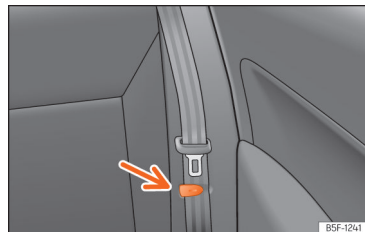

Fig. 92 Rear seat: clip to hold the seatbelt in place.
- Place the side seat belts in the trim clip »» Fig. 92.